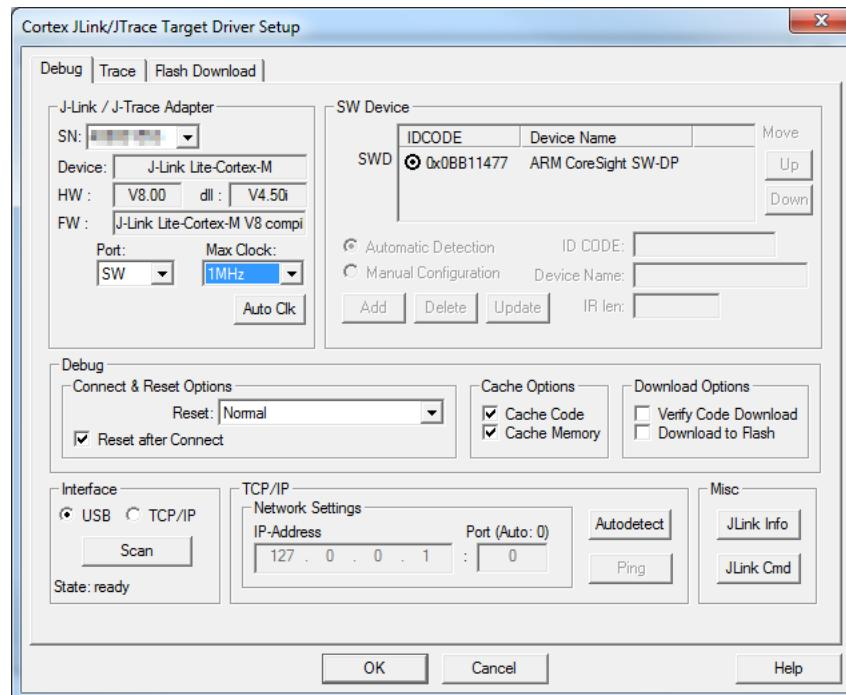

Figure 26 Target driver setup
8. In **Max Clock** the maximum speed for the debugging port cannot be exceeded (1 MHz). A proper configuration is shown in *Figure 26 on page 36*.